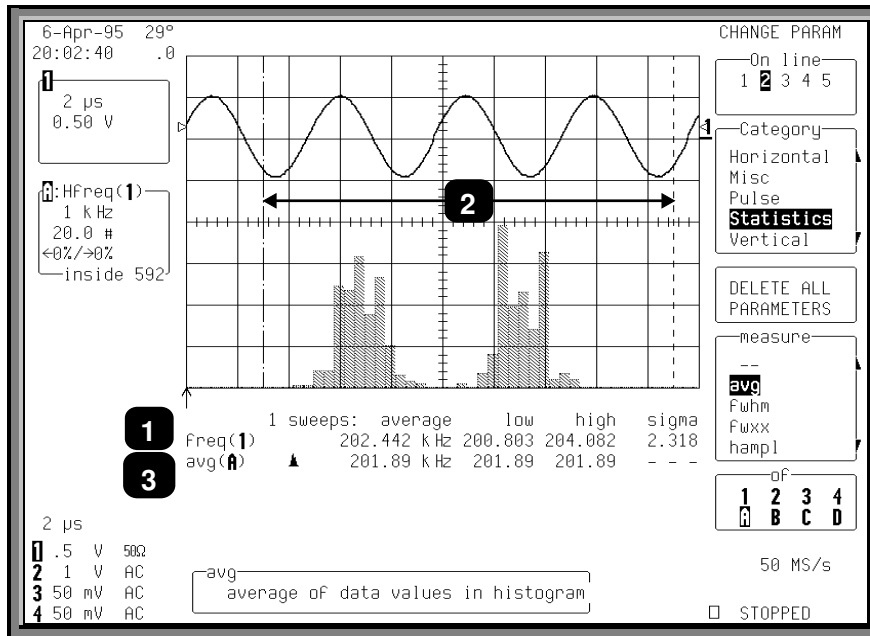

Figure 1.2
As shown in Figure 1.2, up to five parameters can now be selected, each displayed on its own line below the grid. Categories are provided for related groups of parameter measurements. The freq measure parameter from the "Cyclic" category for Trace 1, previously selected, is displayed on Line 1 as **freq(1)** (Item 1). The **avg** measure parameter from the "Statistics" category for Trace A is displayed on Line 2. This category provides histogram parameters, while avg offers the mean value of the underlying measurements for the Trace A histogram section within the parameter cursors (2), shown as "avg(A)" in 3. Additional parameter measurements can be selected from "Category" and "measure". No parameters have been selected for Lines 3 to 5